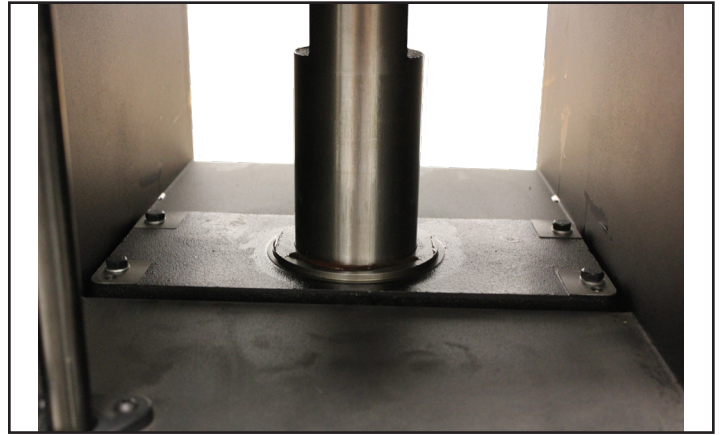

Figure 20: Planer Table Screws.
1. The planer table assembly is affixed to the cabinet using four Hex Bolts (#184, FIG. 20, A). Adjacent to these bolts are four Hex Socket Set Screws (#180, B), which are adjustable to elevate an end of the planer table to achieve parallelism with the cutterhead.
5. With the jointer table elevated, remove the Front Guard and Rear Guard to access the bolts for adjusting the feed rollers' pressure. See Figures 20,21, and 22.